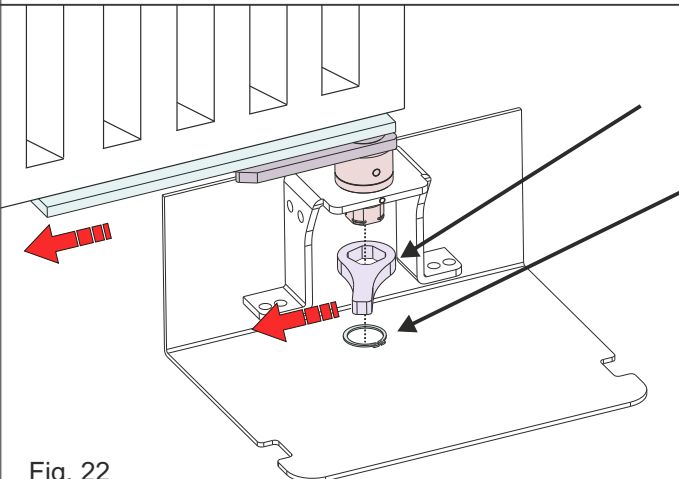
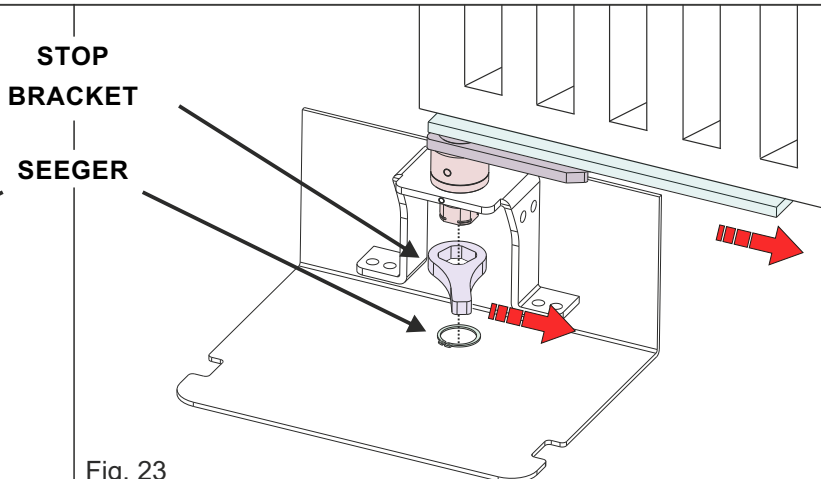

Fig. 22
Fig. 23
6.1. Insert the stop bracket into the box shaft, **making sure it is oriented in the same direction of the leaf support bracket**, then lock it with the seeger (Fig. 22 e Fig. 23)
For assembly refer to the instructions in **chapter 6**, making sure to mount the stop bracket and the magnet in the correct direction (*in the same direction in which the leaf support bracket is oriented*). See Fig. 22 and Fig 23